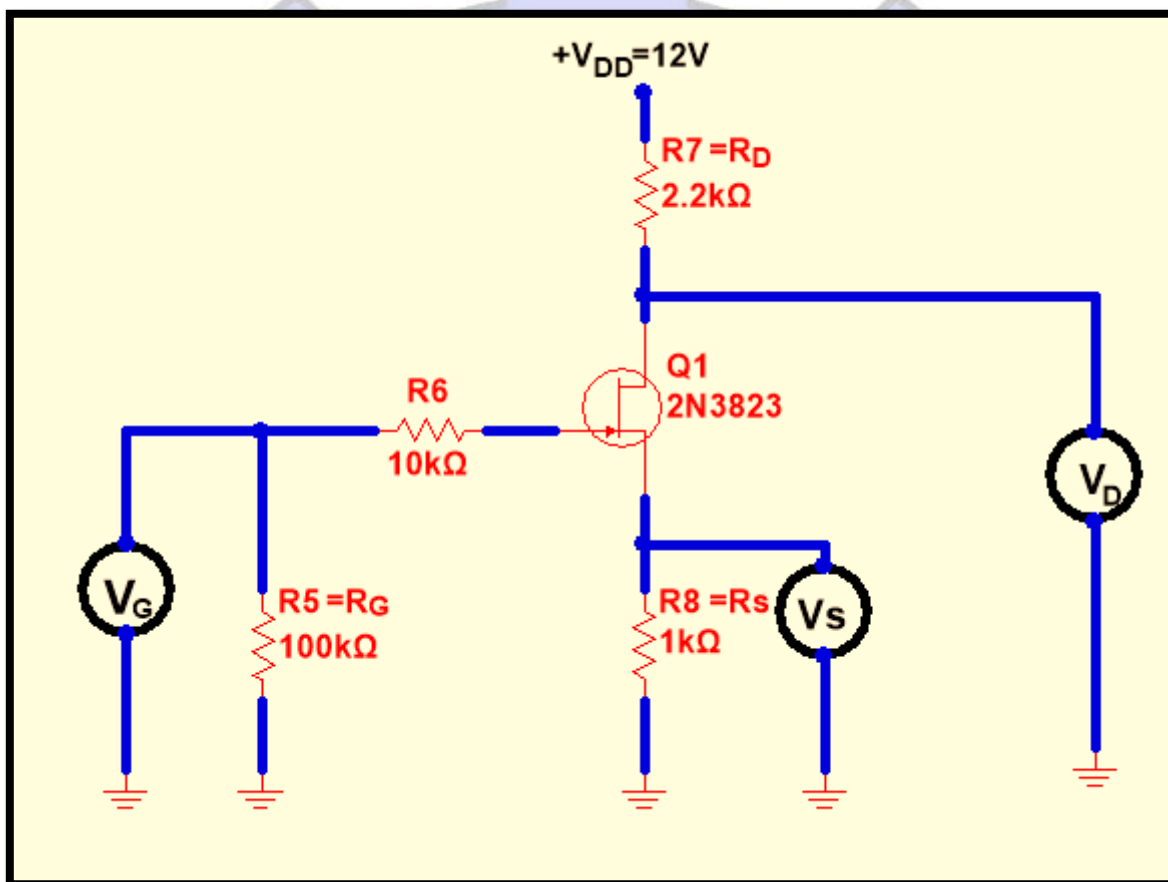

Figure 6: The Practical Bias Circuit of the Amplifier
3. Connect the JFET self-bias circuit shown in Fig.6 and measure the DC voltages  $V_G$ ,  $V_S$ , and  $V_D$  with the aid of a digital multi-meter. Determine  $V_{GSQ}$ ,  $I_{DQ}$ ,  $V_{DSQ}$ , and  $g_m$  at the Q-point. Tabulate your results as illustrated in Table-2.